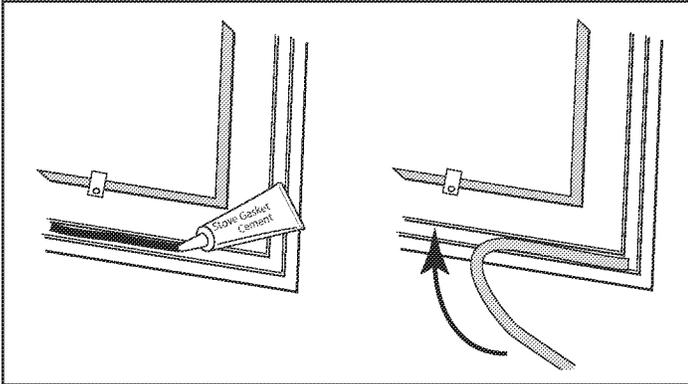

Figure 2.15 - Lay a bead of gasket silicone or cement then press gasket in place.
5. Lay an unbroken 1/8" (3 mm) bead of silicone or cement in the newly-cleaned channel. (Figure 2.15)
6. Starting at one end, press the gasket into the channel. (Figure 2.15) Ensure a good joint where the gasket meets before trimming any excess. Do not overlap the gasket ends or leave ends with ragged edges.